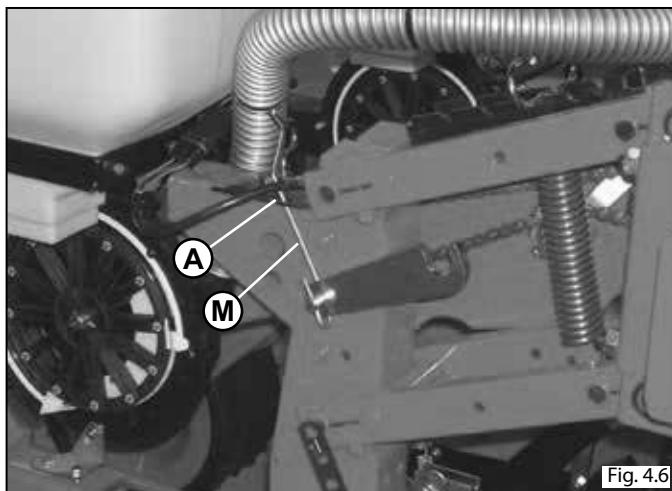

Fig. 4.6
- Displace spring **M** from position **A** (Fig.4.6) to position **B** (Fig.4.7).